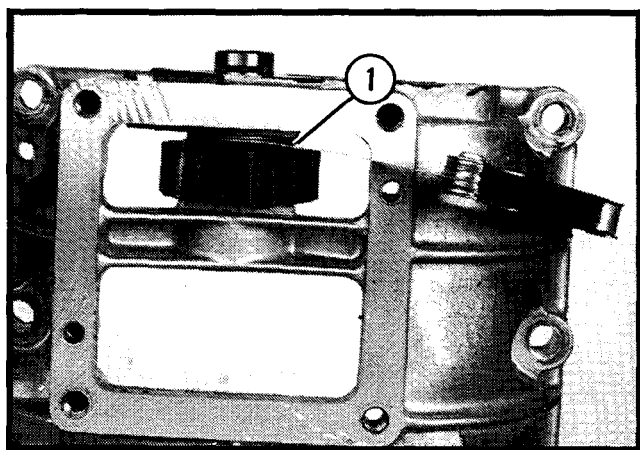

Figure 7.
2. Select one of the following thrust washers to give .005 to .017 in. (0.13 to 0.43 mm) clearance between the gear and the transmission case. See Figure 7.